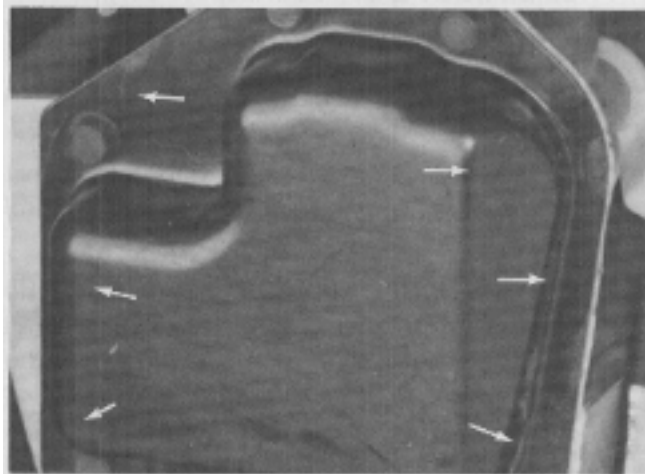

Figure 45
1. Remove the six flanged head self-tapping screws securing the transmission cover to the transmission case and remove the cover. See Figure 45.